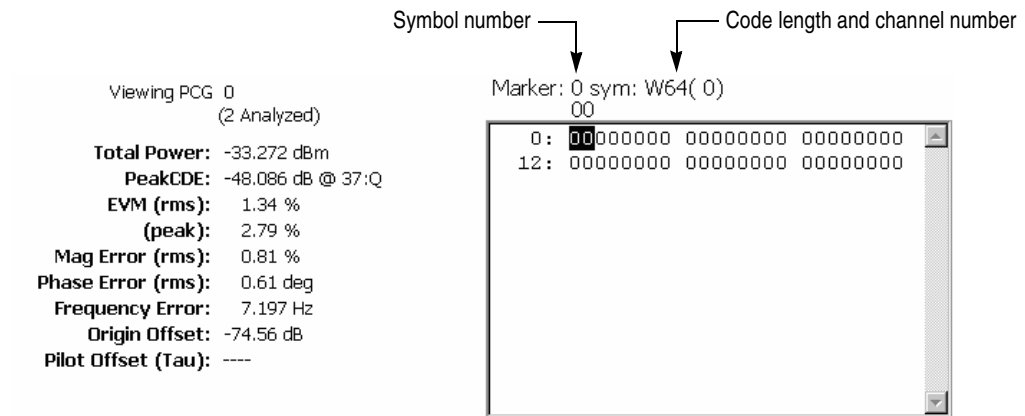

**Figure 2-6: PhaseErr display**
**PhaseErr Display.** When you select Mainview Content from the VIEW DEFINE menu and then select PhaseErr from the Mainview Content submenu, changes of phase error over time are displayed for each chip or symbol (see Figure 2-6).